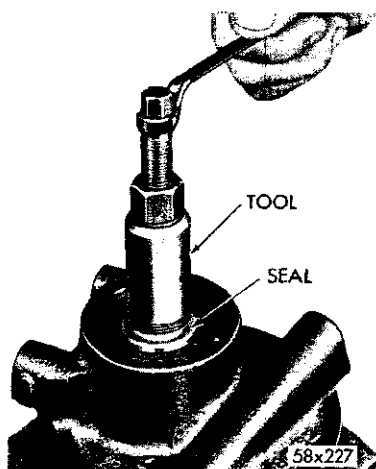

Fig. 53—Removing Pump Shaft Oil Seal (Typical)
(6) Remove pump shaft oil seal by threading Tool C-3783 far enough into seal to engage the metal portion of the seal (Fig. 53).